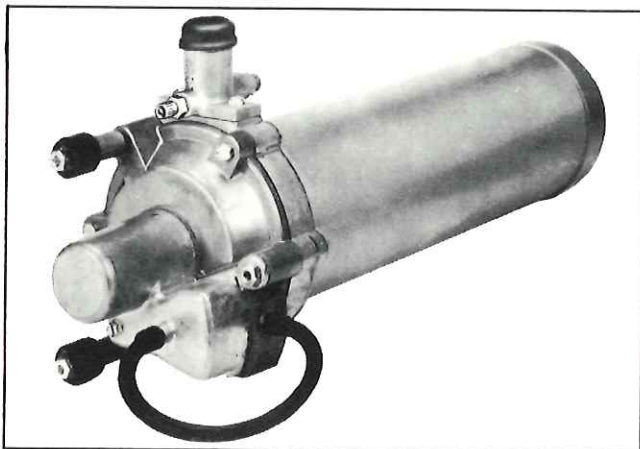

Fig. 13—Assembly Leak Test Preparation
3. Route an 8" rubber hose between vacuum and vent ports, (fig. 13).